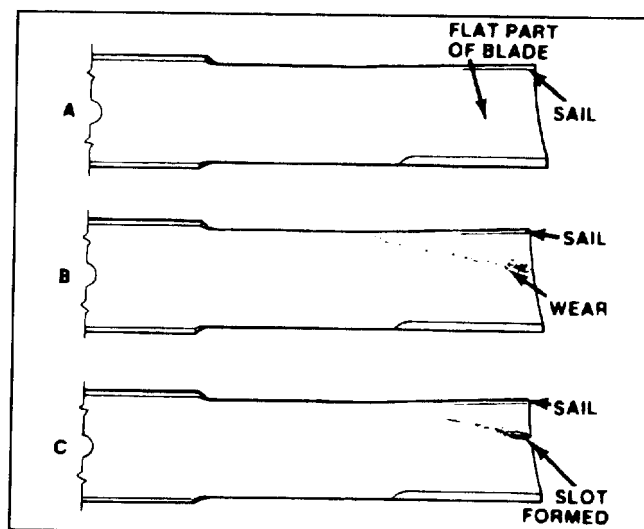

Figure 74
INSPECTING AND SHARPENING BLADE (Fig. 74)
2. Examine cutting ends of the blade carefully, especially where the flat and curved parts of the blade meet (Fig. 74-A). Since sand and abrasive material can wear away the metal that connects the flat and curved parts of the blade, check the blade before using the machine. If wear is noticed (Fig. 74-B), replace the blade: refer to Removing Cutter Blade, page 37.